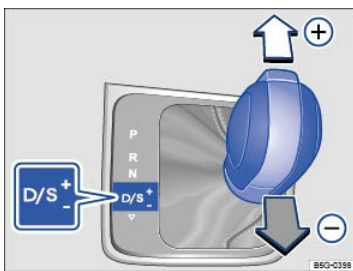

Fig. 105 Selector lever in Tiptronic position.
- Briefly push the selector lever forward ⊕ to upshift into a higher gear or pull it backward ⊖ to downshift into a lower gear ⇒ Fig. 105.